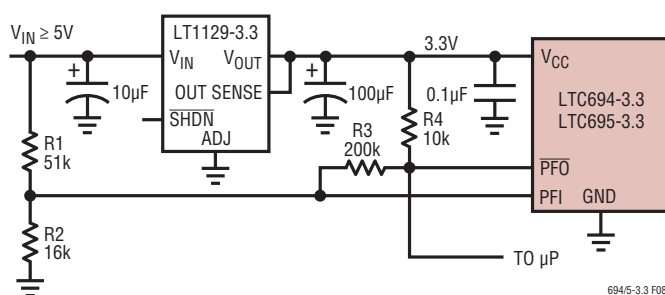

Figure 8. Monitoring *Unregulated* DC Supply with the LTC694-3.3/LTC695-3.3's Power-Fail Comparator
$\overline{\text{PFO}}$  goes low when the voltage at the PFI pin is less than 1.3V. Typically PFI is driven by an external voltage divider (R1 and R2 in Figures 8 and 9) which senses either an unregulated DC input or a regulated 3.3V output. The voltage divider ratio can be chosen such that the voltage at the PFI pin falls below 1.3V several milliseconds before the 3.3V supply falls below the maximum reset voltage threshold 3.0V.  $\overline{\text{PFO}}$  is normally used to interrupt the microprocessor to execute shutdown procedure between  $\overline{\text{PFO}}$  and  $\overline{\text{RESET}}$  or RESET.
The power-fail comparator, C3, does not have hysteresis. Hysteresis can be added however, by connecting a resistor between the  $\overline{\text{PFO}}$  output and the noninverting PFI input pin as shown in Figures 8 and 9. The upper and lower trip points in the comparator are established as follows:
**Example 1:** The circuit in Figure 8 demonstrates the use of the power-fail comparator to monitor the unregulated power supply input. Assuming the rate of decay of the supply input  $V_{IN}$  is 100mV/ms and the total time to execute a shutdown procedure is 8ms. Also the noise of  $V_{IN}$  is 200mV. With these assumptions in mind, we can reasonably set  $V_L = 5V$  which is 1.6V greater than the sum of maximum reset voltage threshold and the dropout voltage of the LT1129-3.3 ( $3V + 0.4V$ ) and  $V_{HYSTERESIS} = 850mV$ .